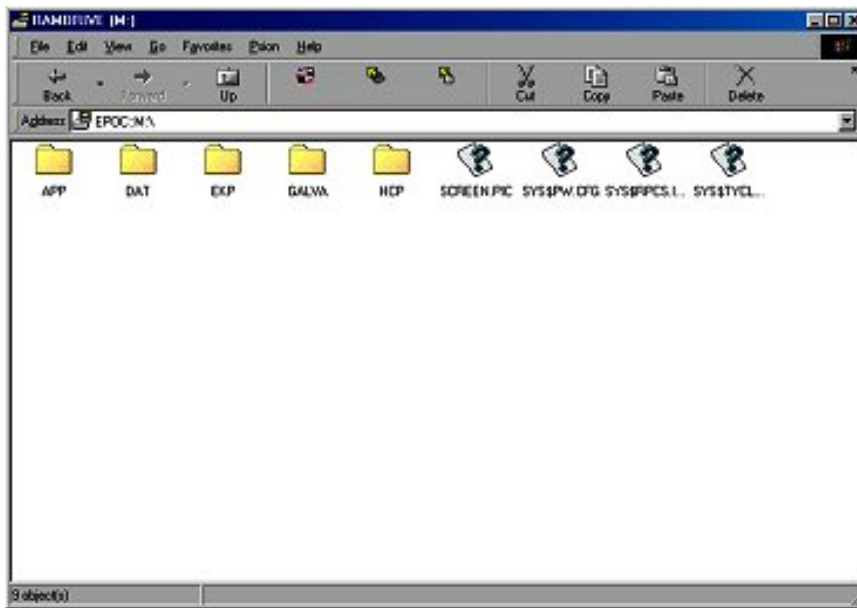

Fig. B4. Explorer screen for My Psion (M-drive)
11. On the M-drive (RAM DRIVE) all data is stored. Double click on the icon RAM DRIVE (M:) and the content on the M-drive will be shown. Fig. B4.